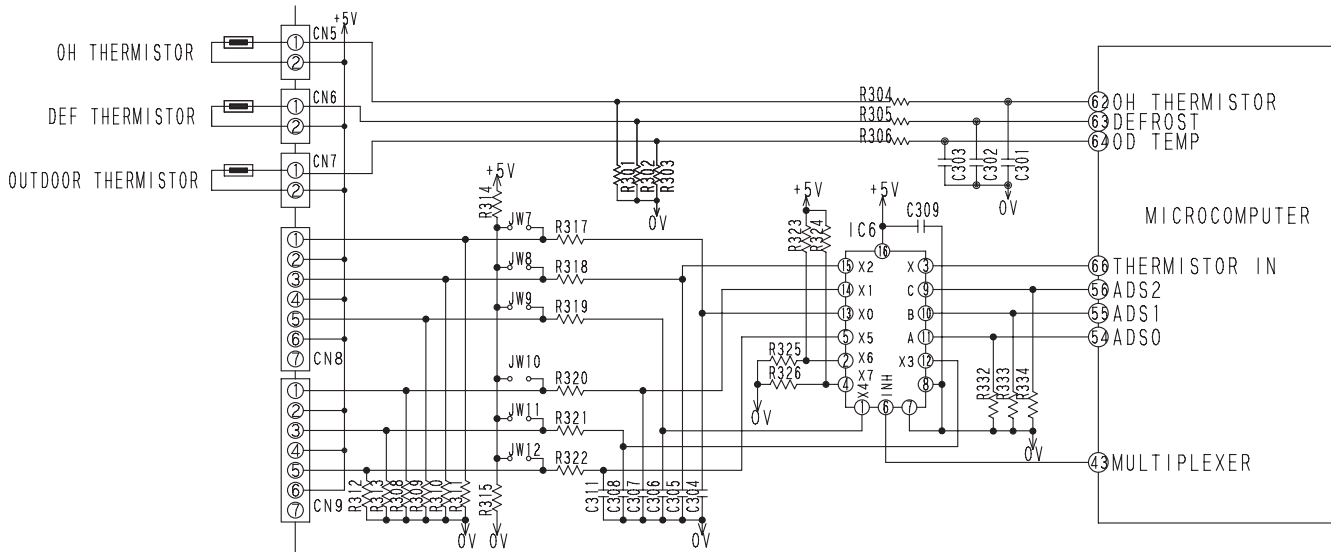

Fig. 10-1 Temperature Detection Circuit
- The circuit of the thermistors is shown as Fig. 10-1 for model RAS-80YHA, and their roles and temperature measuring points are shown as Table 10-1.